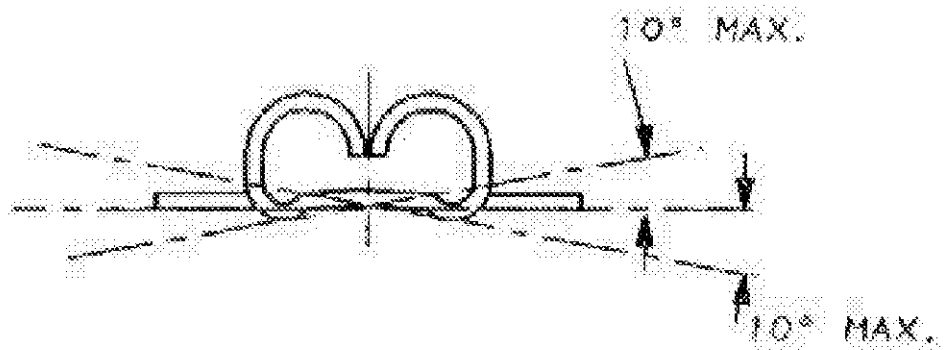

Figure 4
5.3 Twist or roll of the crimped contact shall not exceed the limits specified in Figure 4 .